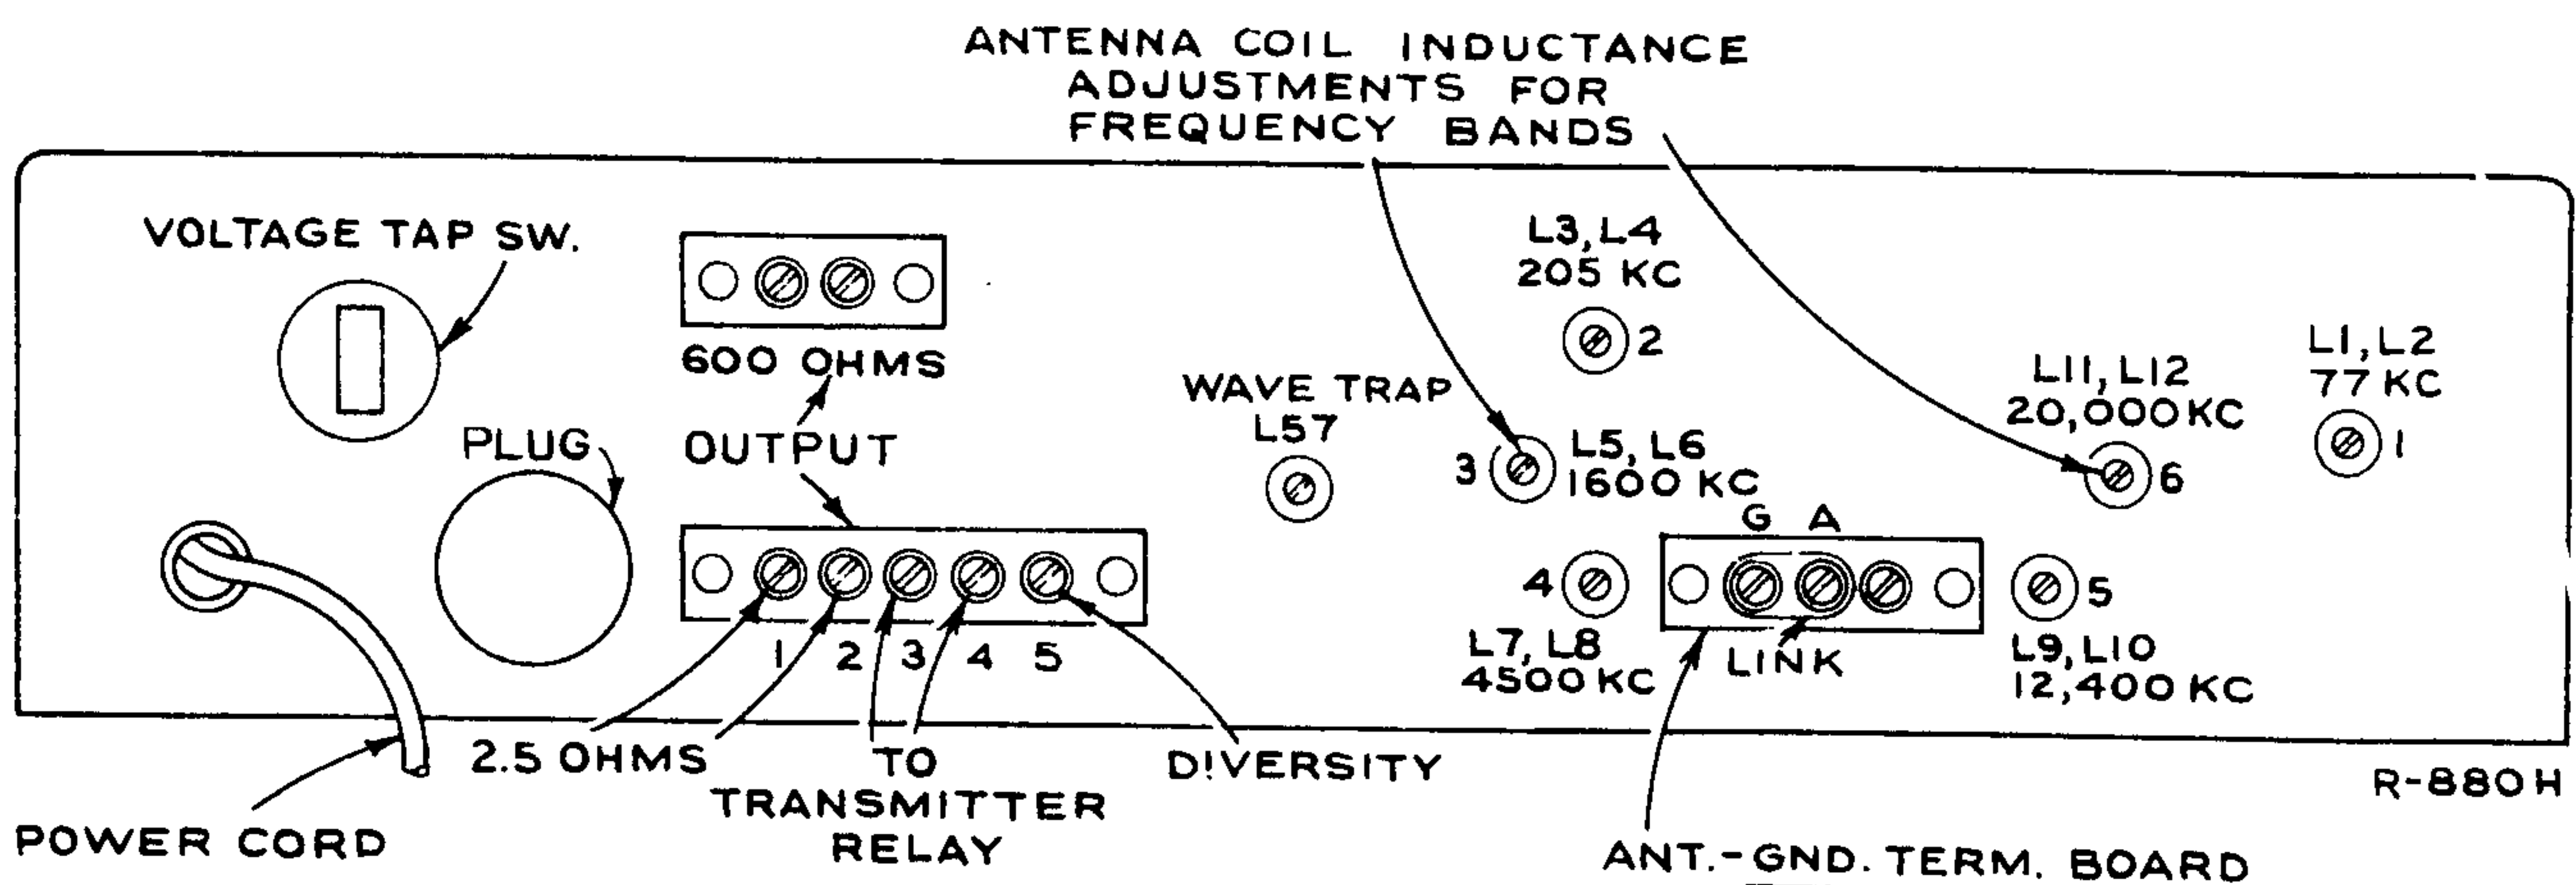

Figure 2—Diagram of Rear Chassis
The antenna terminal board is provided with three terminals (see Figures 2 and 6), two of which may be joined together with a link. When a single wire antenna is used, the link should be closed and the antenna connected to "A." If a ground is used, it should be connected to "G." If a transmission line or balanced input is used, the link should be opened and the line connected to terminal "A" and the center terminal.
Power Pack — The power pack mounted on the receiver chassis consists of a power transformer, rectifier tube RCA-5Y3GT, and filter. A tap switch is provided on the rear apron for changing the power transformer voltage tap. (See Figures 2 and 6.) The voltage for which the switch is set may be read directly on the switch. The instrument may also be operated from 6V. "A" and 250 to 300 V. "B" batteries, or Vibrator Power Supply Unit MI-8319.
Speaker — Terminals for connection of a loud-speaker are indicated in Figures 2 and 6. The output transformer is designed to match a speaker having 2.5 ohms impedance.
2. Transmit position which gives energized tube filaments, open plate circuits, and shorted terminals for transmitter relay on the speaker terminal board on the back of the chassis. Connect relay to these two terminals for transmitter operation. See Figure 2.
Diversity Reception — Connect together the terminals marked "diversity," Figure 2, on two or three of these receivers, and equip each receiver with a separate antenna. The "diversity" terminal is connected inside the receiver to the AVC circuits. Tune as explained.